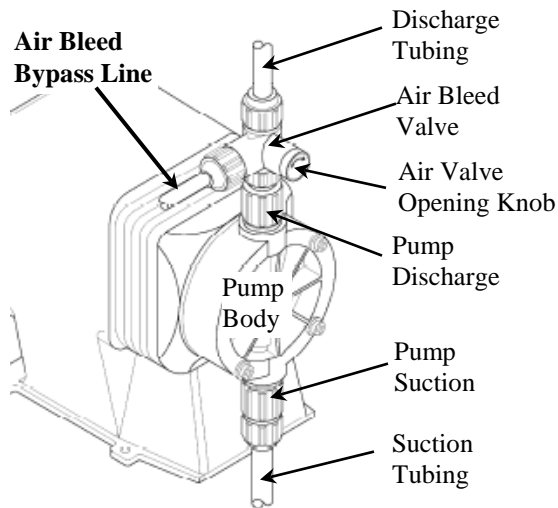

Figure 9
2. Open Air Bleed Valve (turn opening knob counterclockwise, see Figure 9)
If the dosing chemical can be handled safely, it may be helpful to add dosing chemical to the suction assembly via the top of the calibration column. This requires the installation of a foot valve at the entrance to the suction line within the chemical source container. Open the Air Bleed Valve turning the opening knob counterclockwise (see Figure 9). Open Column Isolation Valve. Open all valves in the Suction Line. Add dosing chemical into the top of the Calibration Column until liquid remains visible. Follow steps, below. Note that Air Bleed Valve is open.